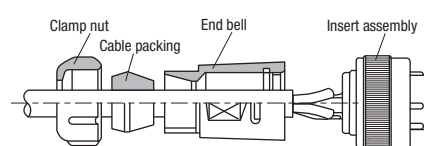

Figure 1
- Move the cable back, forth, left, and right to fit it (Figure 1). Tighten it again with the specified torque value.